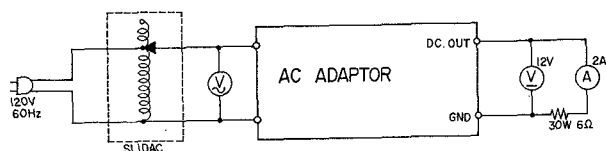
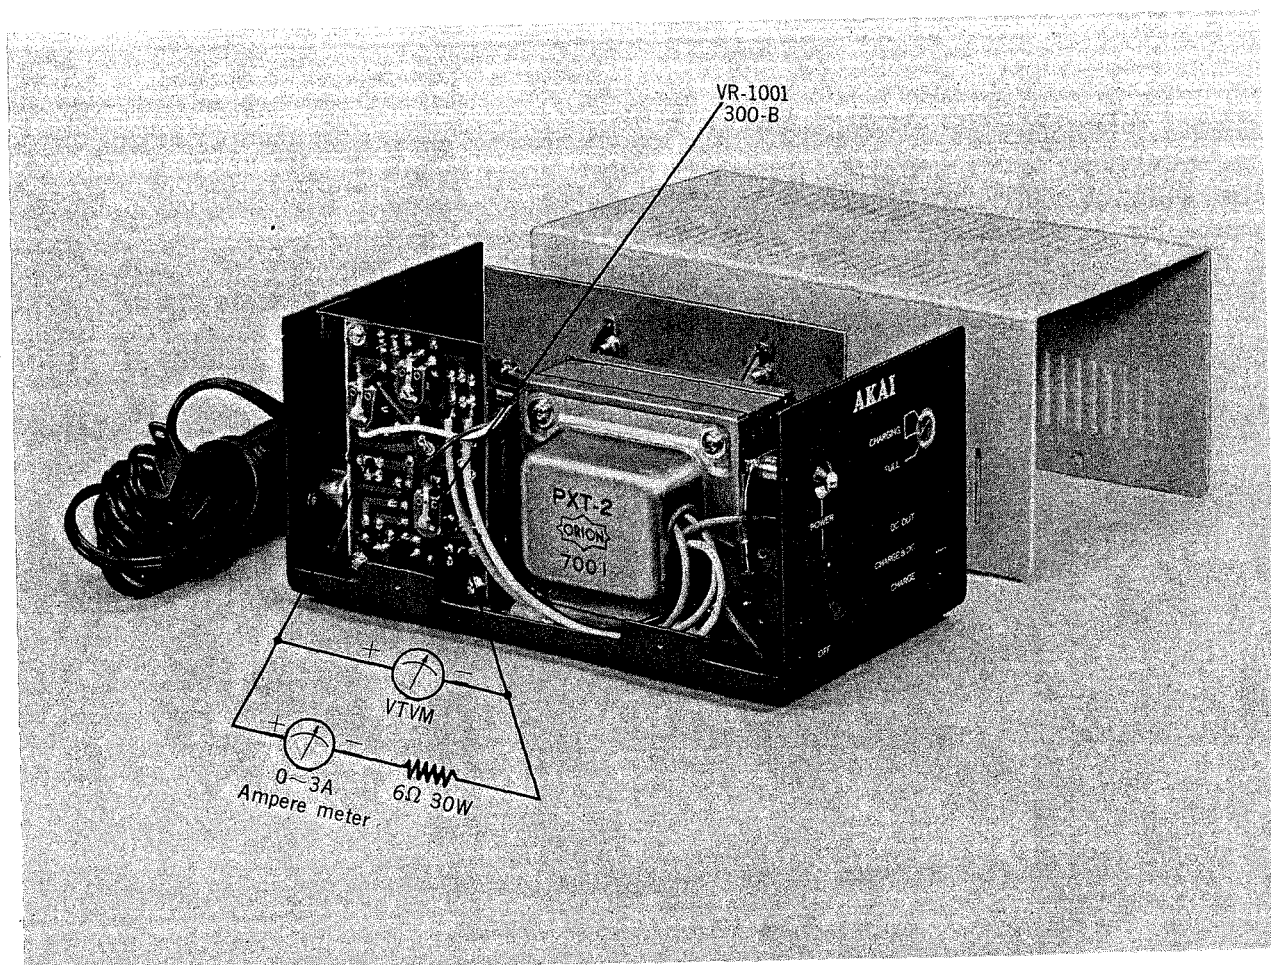

Fig. 4-1
Fig. 4-2
Connect an Ammeter (2 A) and Resistor (6 Ω 30 W) in series between DC Output and Ground Terminals. At the same time, connect a V.T.V.M. to DC-Output and Ground terminals (See fig. 4-1), and proceed as follows :
2. With Power Switch turned "On", and DC Voltmeter connected to DC output terminal, adjust semi-fixed volume (VR-1001, 300 Ω B) of printed board so that voltmeter reading is 12 V (Ammeter reading is 2 A throughout). (See fig. 4-1 and fig. 4-2)